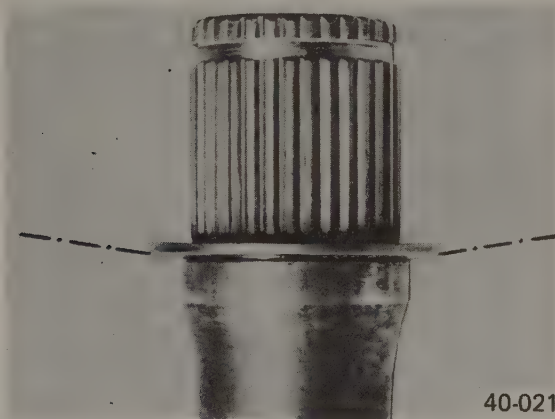

Fig. 5-10. Correct installation of dished washer used with inner CV joint on end of drive axle.
5. When installing the CV joint, use a new dished washer and install it with the concave surface facing the end of the shaft, as shown in Fig. 5-10.